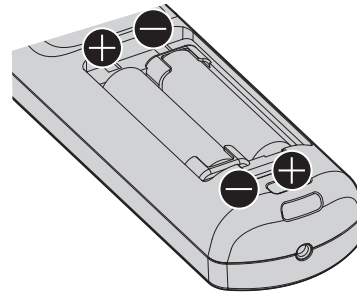

Fig. 2
- 2) Insert the batteries and close the cover (insert the  $\ominus$  side first). (Fig. 2)